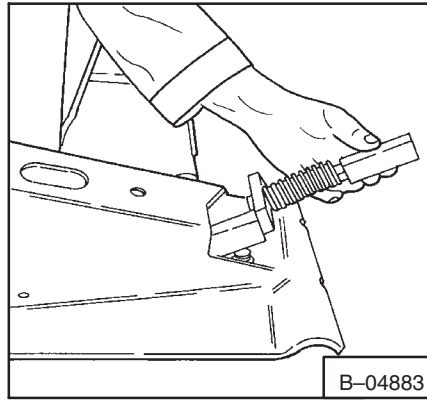

**Fig. 5-26** Adjusting Spring
2. Install the block on the wedge bolt. Turn the block down until there is 6.090–6.210 inches (155–158 mm) from the center of the lever bolt hole to the top of the wedge where the spring seats (Fig. 5-26).